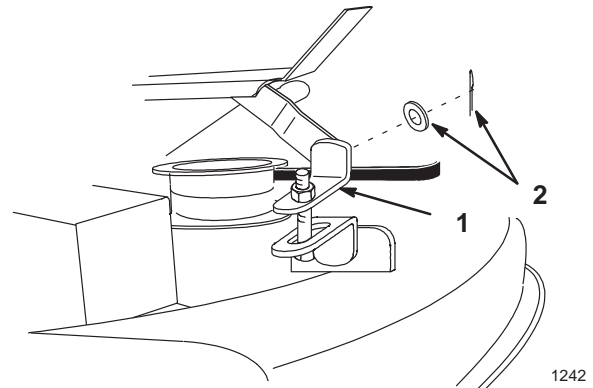

Figure 5
8. Install front adjustable link to front lift arm with washer and hairpin cotter (Fig. 5).
9. Secure adjustable link to front lift arm with washer and hairpin cotter (Fig. 5).